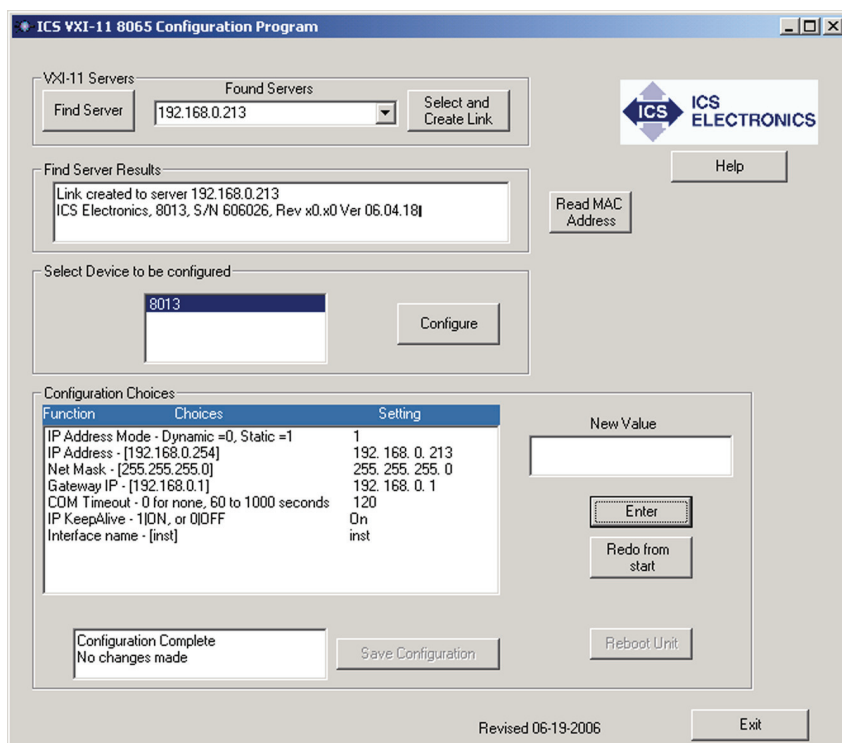

Figure 2-8 VXI-11 Configuration Utility
4. Run the VXI11_config program. The Configuration Utility opens a window as shown in Figure 2-8. Initially only the Find Server, Help and Exit buttons are enabled on the program window. The other buttons will be enabled as you advance through the program.
9. Repeat step 8 for each configuration parameter. Figure 2-8 shows the VXI-11 Configuration Utility after all parameters have been entered for a Model 8013. Click the **Redo From Start** button if you need to start over or if you want to change any of the prior settings